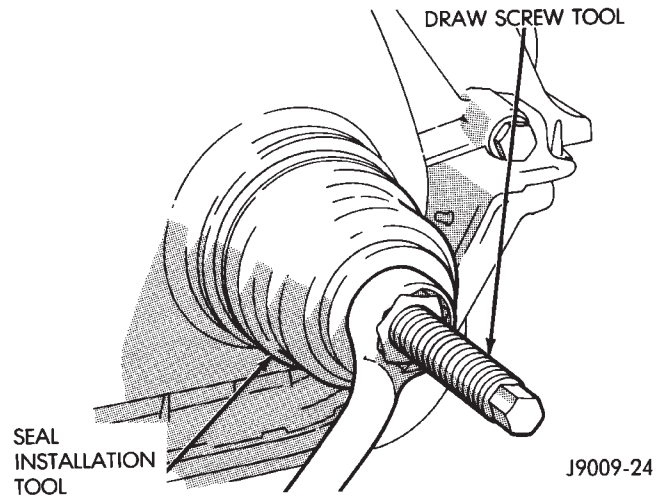

Fig. 4 Timing Case Cover Oil Seal Installation
- (1) Disconnect negative cable from battery.
- (2) Remove the serpentine drive belt.
- (3) Remove the vibration damper.
- (4) Remove the radiator shroud.
- (5) Carefully remove the oil seal. Make sure seal bore is clean.
- (6) Position the replacement oil seal on Timing Case Cover Alignment and Seal Installation Tool 6139 with seal open end facing inward. Apply a light film of Perfect Seal, or equivalent, on the outside diameter of the seal. Lightly coat the crankshaft with engine oil.
- (7) Position the tool and seal over the end of the crankshaft and insert a draw screw tool into Seal Installation Tool 6139 (Fig. 4). Tighten the nut against the tool until it contacts the cover.
- (8) Remove the tools. Apply a light film of engine oil on the vibration damper hub contact surface of the seal.
- (9) Apply Mopar Silicone Rubber Adhesive Sealant to the keyway in the crankshaft and insert the key. With the key inserted in the keyway in the crankshaft, install the vibration damper, washer and bolt. Lubricate and tighten the bolt to 108 N·m (80 ft. lbs.) torque.
- (10) Install the serpentine belt and tighten to the specified tension (refer to Group 7, Cooling Systems for the proper specifications and procedures).